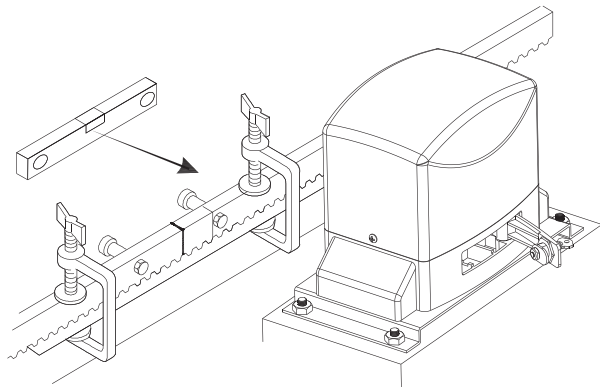

Fig. 22
- 5) Bring another rack element near to the previous one, using a piece of rack (as shown in Fig. 22) to synchronise the teeth of the two elements.